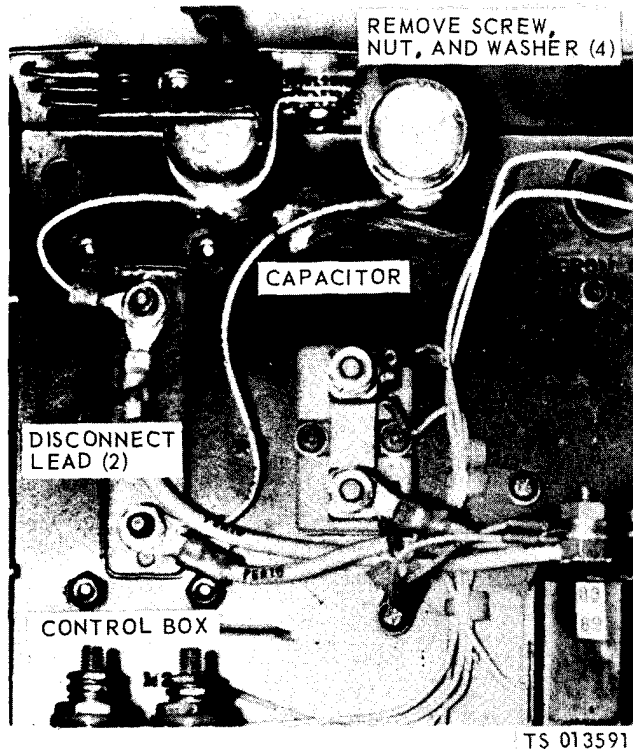

Figure 8-4. Radio interference suppression components, removal and installation (DC Unit).
at 0.5 MFD, 100 V DC. These capacitors are shown by figure 8-4.
(2) *DC Unit.* For replacement of interference suppression components on the DC unit, refer to figure 8-4.